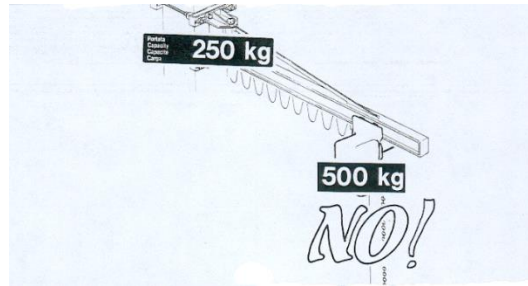

fig. 17
- 3) The specifications of the lifting unit (trolley/hoist), if not part of the supply, are compatible with those of the jib crane in relation to: (fig. 17)